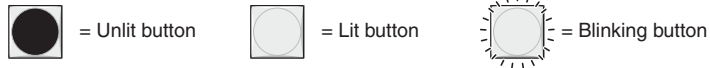

Figure 3-62 — Adjust the output audio volume
4. Press and release the Esc (▲) button once (figure 3-62) to increase the volume by 0.75%.
Press and release the Esc (▲) button several more times (figure 3-62) to increase the volume by 0.75% (0.5 dB) per button push. Note the input button indication changes that occur each time the Esc (▲) button is pressed and released.
Figure 3-62 show the result of pressing the Esc (▲) button a total of 13 times.